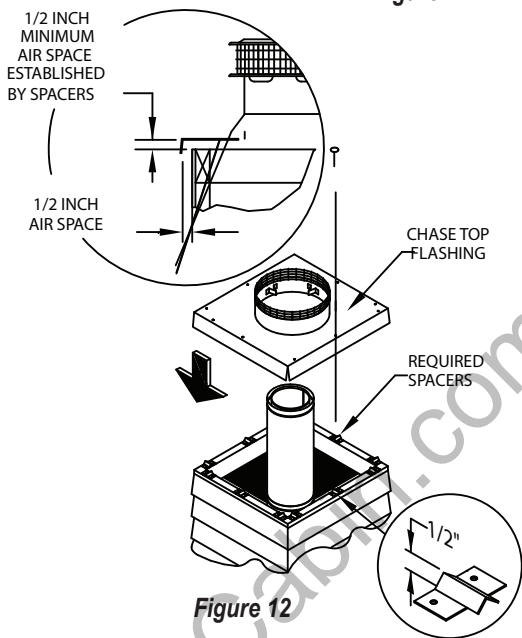

Figure 12
**12. Attach Flashing:** For chase enclosures, use a Chase Top Flashing. The Chase Top Flashing allows for a 1 1/2-inch clearance maintained from the chimney and provides required ventilation air. Install the Chase Top Flashing at the top of the chase with a 1/2-inch minimum air clearance off the top of the chase construction (**Fig. 12, 13**). Use spacing clips provided to establish 1/2-inch air clearance. If the Chase Top Flashing does not fit the dimensions of the chase, use a Chase Top Collar Section and extend the base of the flashing as needed for the chase dimensions.
Ensure the minimum ½-inch spacing and perimeter ventilation requirements are met as show in **Figure 12**. Secure the Chase Top Collar Section to the field-fabricated chase top with sheet metal screws or rivets (**Fig. 14**). Seal Chase Top Collar Section to chase top with non-hardening waterproof sealant to ensure a weather tight connection. Additional screening as needed for field-fabricated chase covers is allowed. Additional ½-inch minimum spacers can be field-fabricated as needed out of 24 GA sheet metal or other suitable non-combustible material. Additional non-combustible structural supports can be field-fabricated to help support the chase top flashing if needed, provided the air ventilation requirements are maintained. Secure the Chase Top Flashing to the chase with at least three (3) screws or nails per side. When installed, the bottom of the Chimney Cap must be at least 6 inches above the Chase Top Flashing (**Fig. 15**).